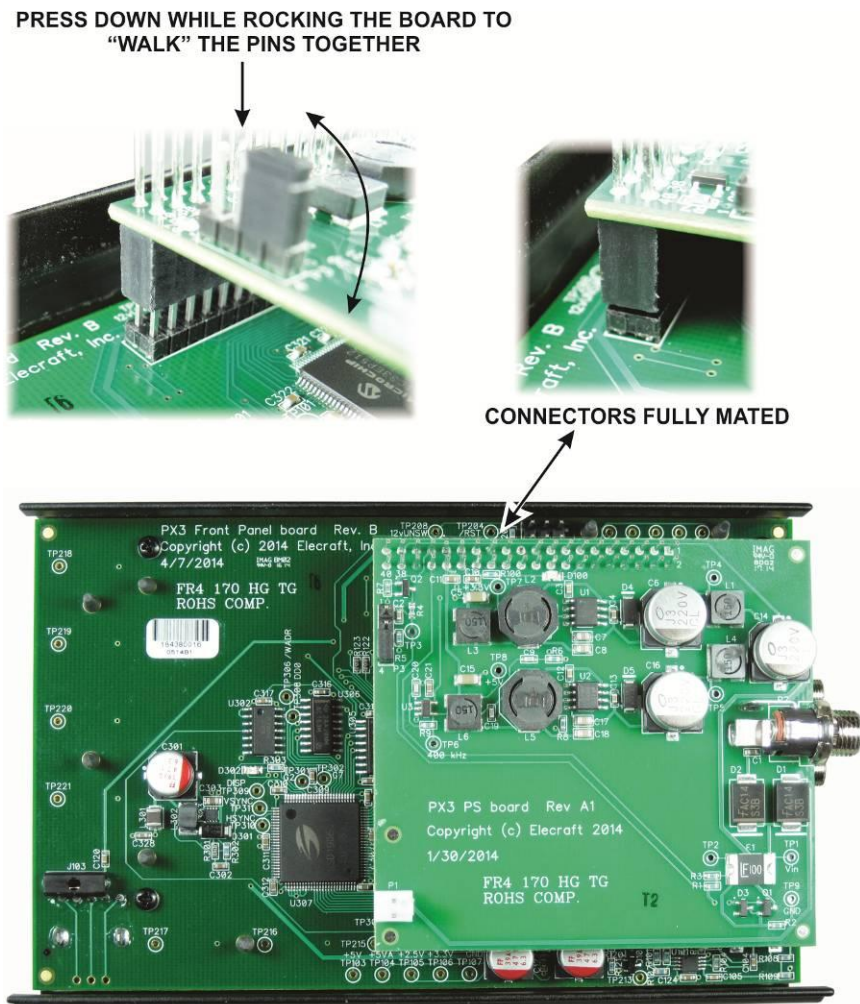
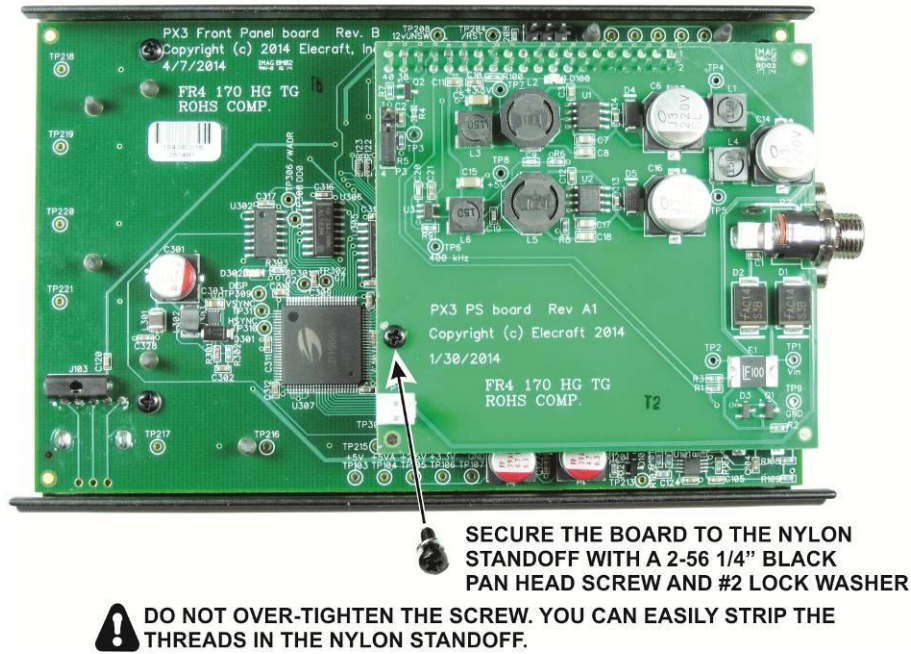

Figure 35. Mating the Power Supply Board Connectors.
Figure 36. Installing the Power Supply Board Mounting Screw.
□ Remove the power supply pc board from its packaging and mount it on the back of the front panel board as shown in Figure 35. Be sure the multi-pin connectors are properly lined up and fully mated as shown. The connectors fit very tightly.
- Attach the power supply board to the nylon standoff using a screw and lock washer as shown in Figure 36.
Remove the screw holding the power supply board to the front panel board (see Figure 36 on page 57) and then separate the connectors. Rock the power supply board while lifting it off as shown in Figure 35 on page 56 .